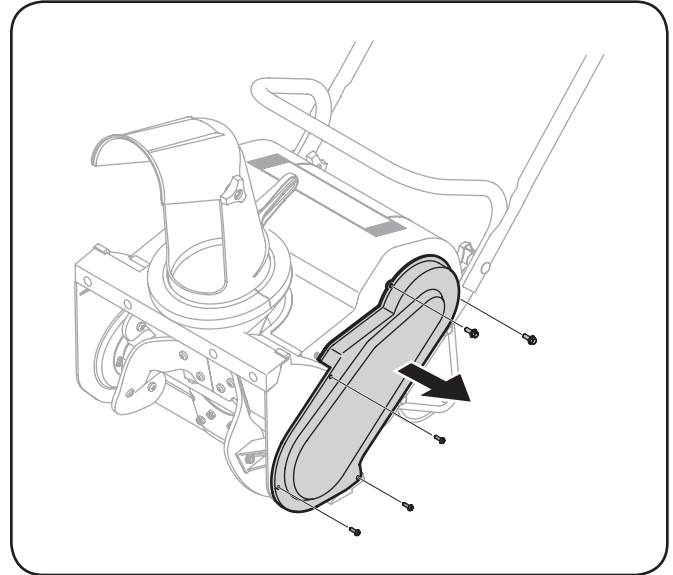

Figure 7-2
1. Unscrew the five screws securing the belt cover to the auger housing and remove the belt cover. See Fig. 7-2.